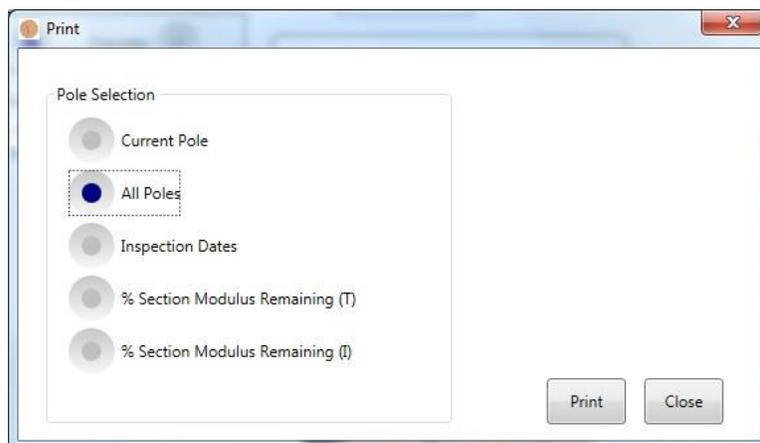

Figure 3-7. All Poles
- *All Poles* – All damage data for all poles in the currently selected database will be printed. The print dialog is shown in Figure 3-7